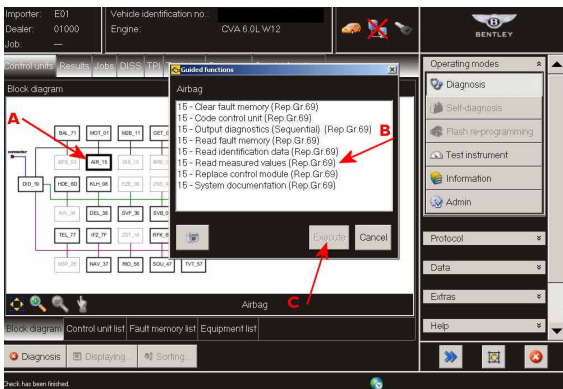

Figure 36
- Referring to Figure 36 - Navigate to the Block diagram screen - select AIR - 15 - Airbag (Point A)